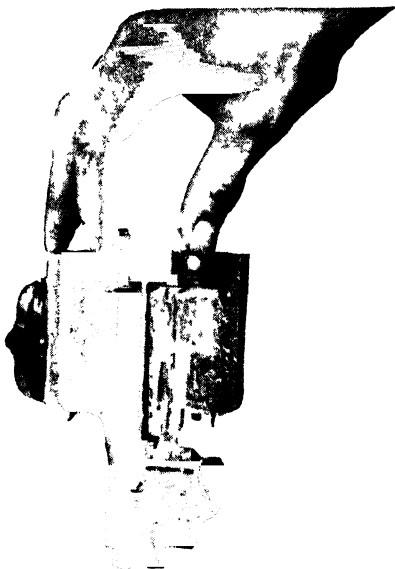

Fig. 23 Enclosed Coil, "ON" Type Magnet Valve with Parts Cut Away and with Gauge Cat. 1499733 in Proper Place for Checking Valve Stem Travel
*Measuring Air Gap and Travel.* The air gap and travel of the magnet valve should be periodically measured. Gap gauge, (See Fig. 23 and Fig. 24) is arranged with four measuring gaps and